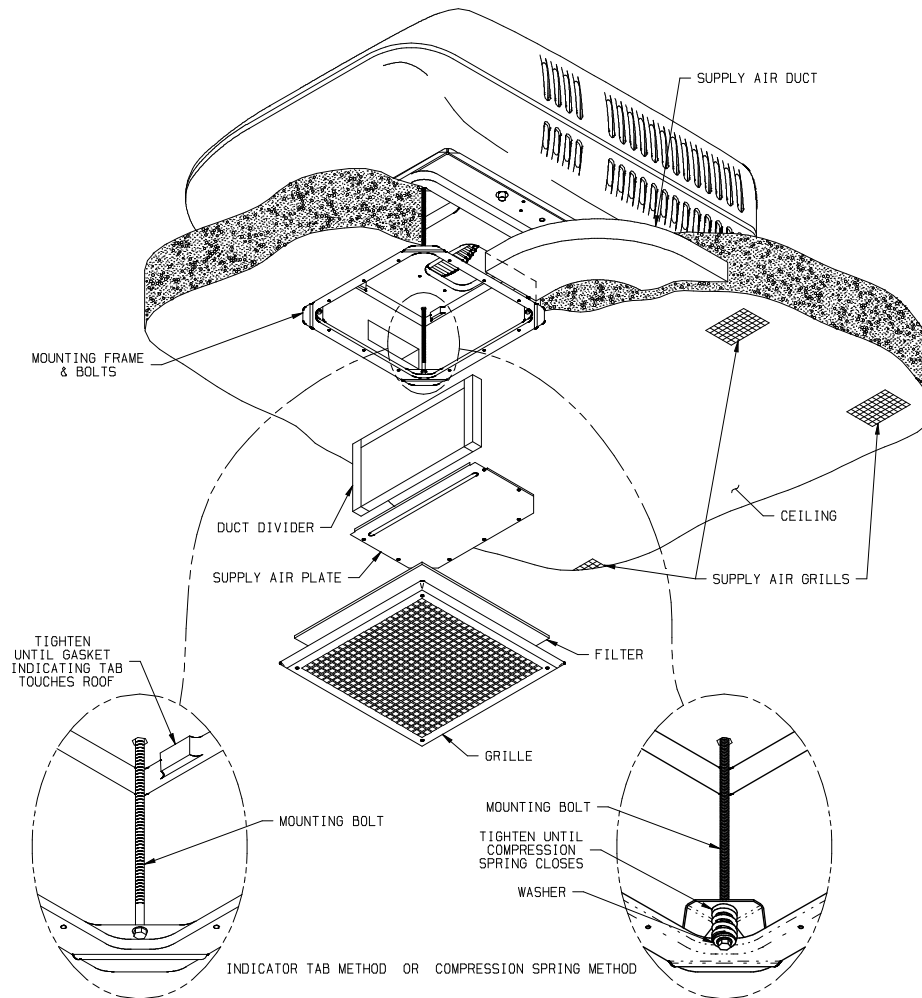

FIGURE 1
1. The field fabricated supply ducting must attach to both sides of the ceiling plenum. A minimum of two ducts are required, with one duct attached to each side of the plenum (See Figure 1).
Mounting (Refer to Figure 1)
2. Position the mount frame into the ceiling opening (See Figure 1).
3. Using the four bolts provided, secure the mount frame to the roof top unit by assembling the bolts up through the clearance holes of the mount frame and into the bottom of the roof top unit (See Figure 1). Tighten bolts only to bring gasket indicating tabs or shelf even with roof.
Refer to Figure 1